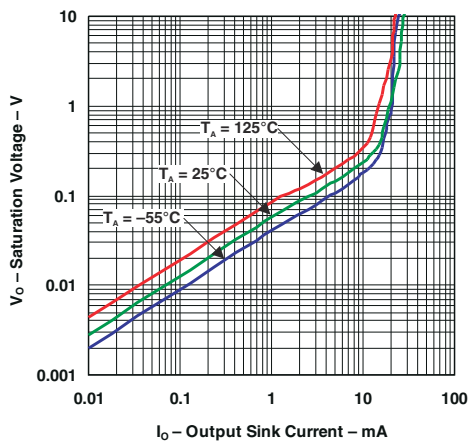

Figure 7-35. Output Saturation Voltage
- $R_{CE}$  can be determined by taking the slope of Figure 7-35 in its linear region at the desired temperature, or by dividing the  $V_{OL}$  by  $I_{OUT}$